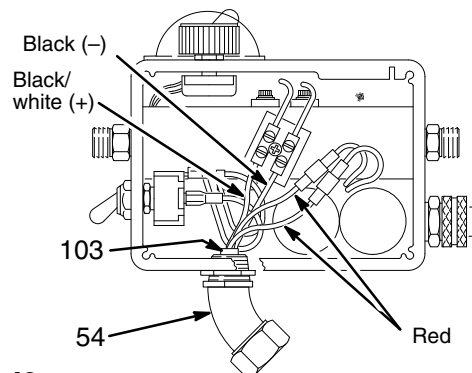

Fig. 42
1. Disconnect the hose (47).
2. Disconnect the drain tube (101) from the drain valve.
3. Loosen the outside filter bracket nut (28). Unscrew the swivel fitting (8) and remove the filter.
4. Remove the pressure control cover (36). Disconnect the four motor leads. See Fig. 42.
5. Unscrew the connector (54). Pull the wires out of the pressure control.
6. Remove the pressure control mounting screws (37). Remove the pressure control. Install the connector (54) on the new pressure control.
7. Install the new pressure control. Place the seal (103) around the motor leads and push the seal into the connector (54). See Fig. 42.
2. Remove the back pressure control plate (16).
3. Remove the pressure control cover. Disconnect the power supply cord leads. See Fig. 42.
4. Loosen the strain relief bushing (B). Remove the power supply cord (23).